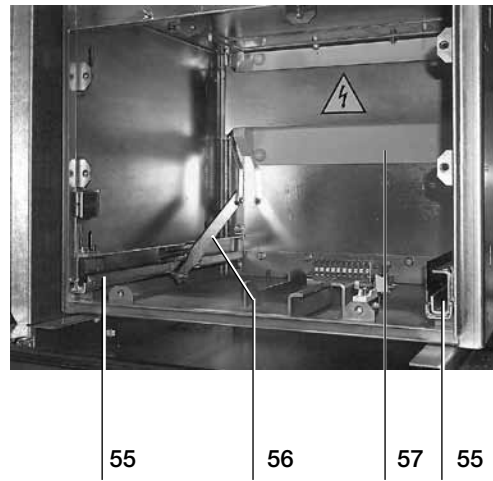

Fig. 11b
A special metallic shutter (57) (fig. 11b) prevents contact with the medium voltage terminals when the truck is withdrawn.
- truck guides (55) (fig. 11b);
- metallic shutter (57) (fig. 11b) for segregating the isolating contacts inside the monoblocks and segregation actuating kinematics (56) (fig. 11b);